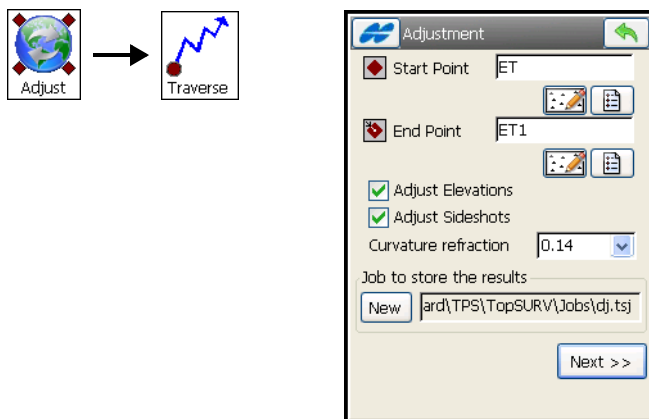
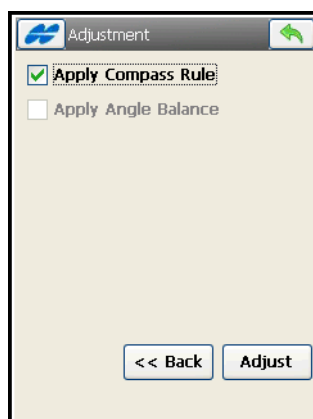

Figure 10-28. Traverse Adjustment
Figure 10-29. Adjustment
1. On the first **Adjustment** screen (Figure 10-28), select initial data for traverse adjustment: the stations on which the traverse originates and closes, whether to adjust elevations and sideshots or not, an Earth curvature value, and a job to store adjusted traverse stations. Then tap the **Next** button. The second **Adjustment** screen displays (Figure 10-29 on page 10-25).
2. On the next **Adjustment** screen (Figure 10-29 on page 10-25), select the method of traverse adjustment to apply (check and enable either *Apply Compass Rule* or *Apply Angle Balance*), and a technique to close the traverse if it is unclosed.